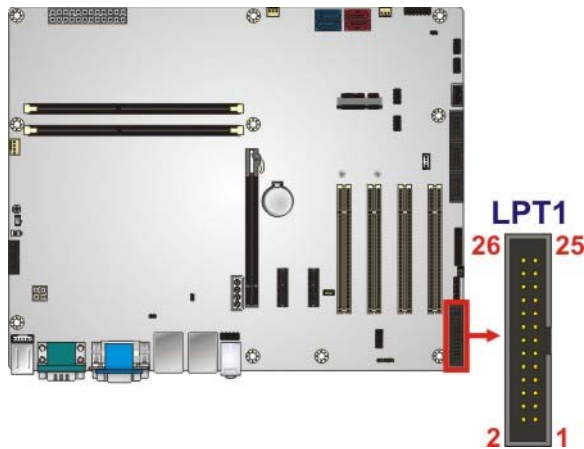

Figure 3-19: Parallel Port Connector Location
- CN Location:** See **Figure 3-19**